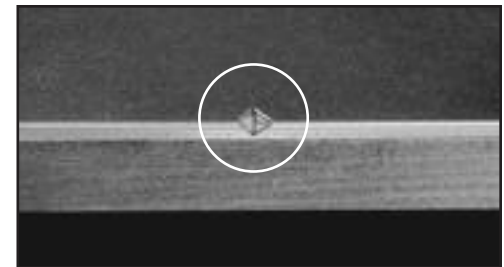

Fig. 06
4. Place trim kit base and align centerline mark to the triangular notch on the front edge of the base (Fig. 06).